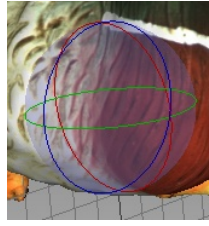

Figure 8.50: Rotation control
- Drag one of the three circles (see Figure 8.50) to rotate the object. Hitting the key that corresponds the required axis (**X**, **Y** or **Z**) will hide the controls for the other axes.